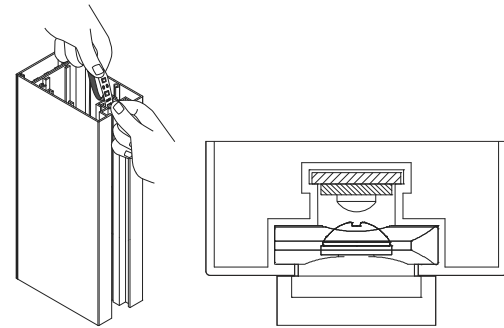

Figure 6a
- Backlit LED will not be interrupted by the Quick Lock™ or provided hardware. Using different hardware with the Quick Lock may damage the LED strip. (Figure 6a)